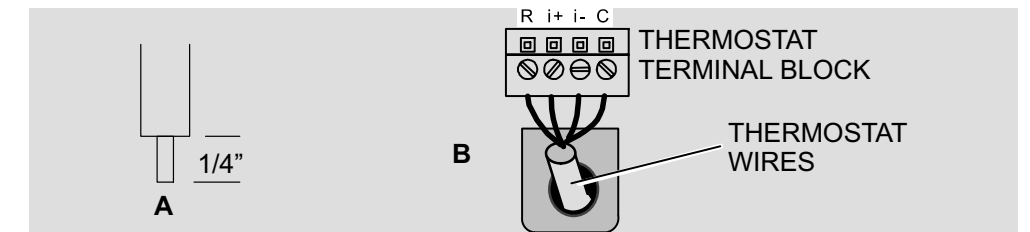

Figure 3. Wiring details
- E.** Trim 1/4" insulation from end of each wire (figure 3, wiring detail A). Insert the trimmed ends of the wires in the appropriate holes on the bottom of the thermostat's terminal block and tighten the screws to secure the wires (figure 3, wiring detail B).